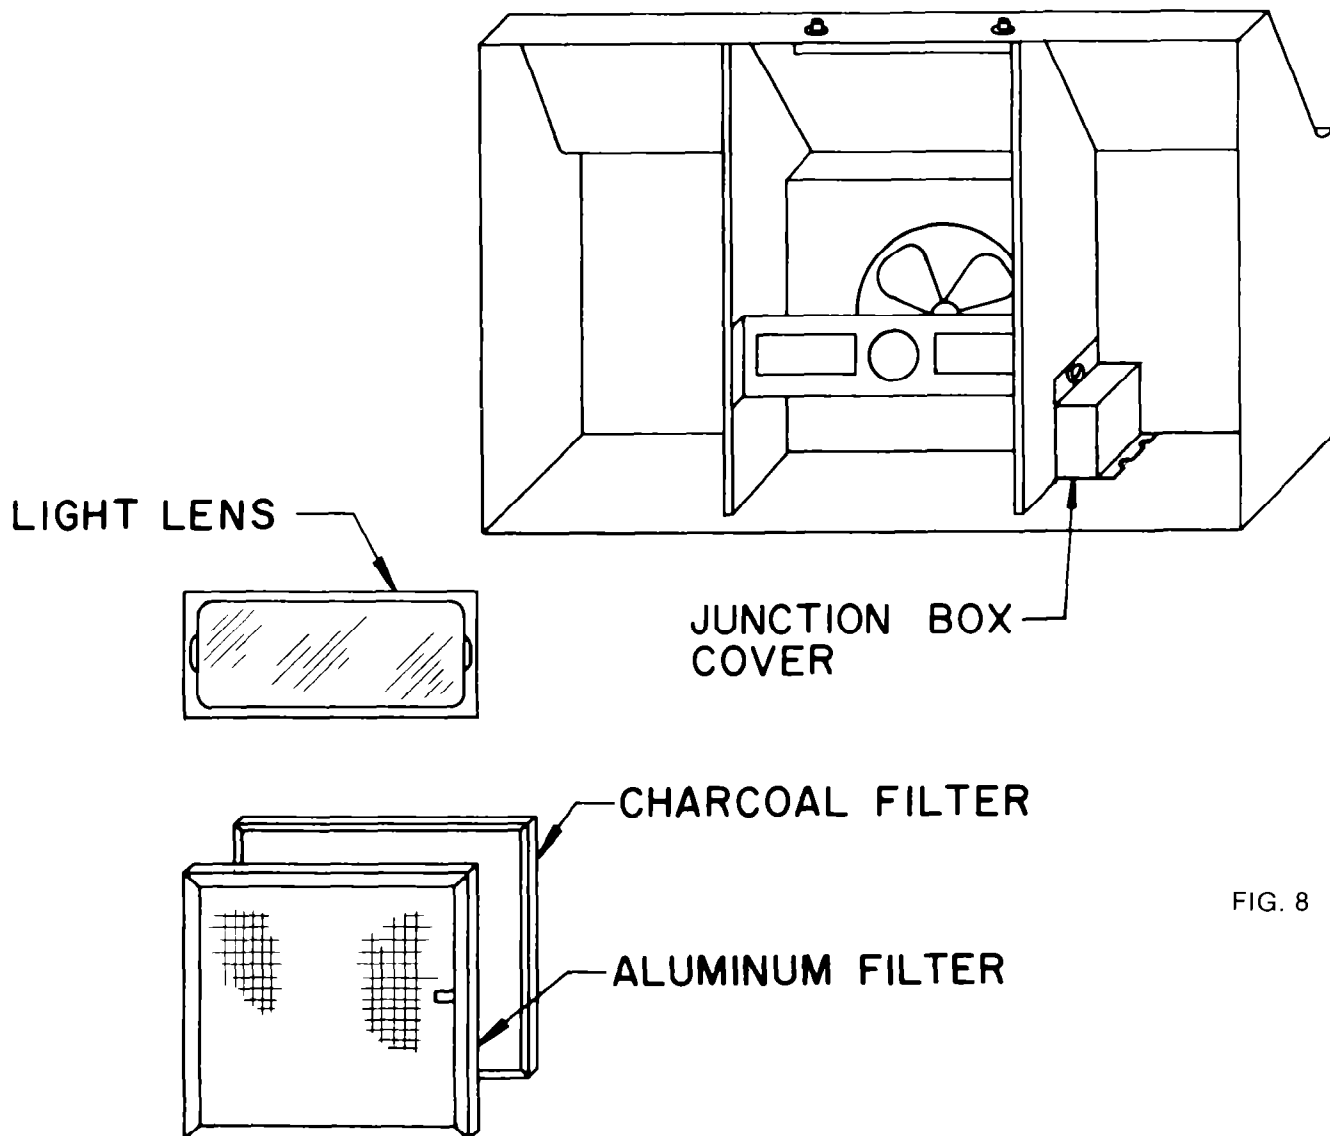

FIG. 8
5. Remove screws holding junction box cover. See Figure 8.
4. Install charcoal filter from ventless kit **behind aluminum filter.** (See Figure 8).